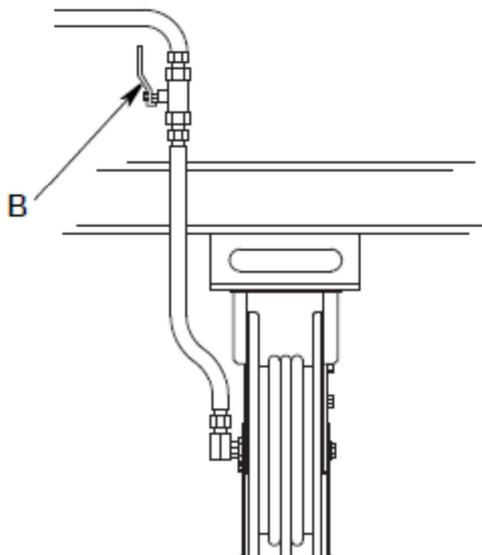

Fig. 2
1. Close the stop valve for liquid media (B, Fig. 2) at all outlet points.